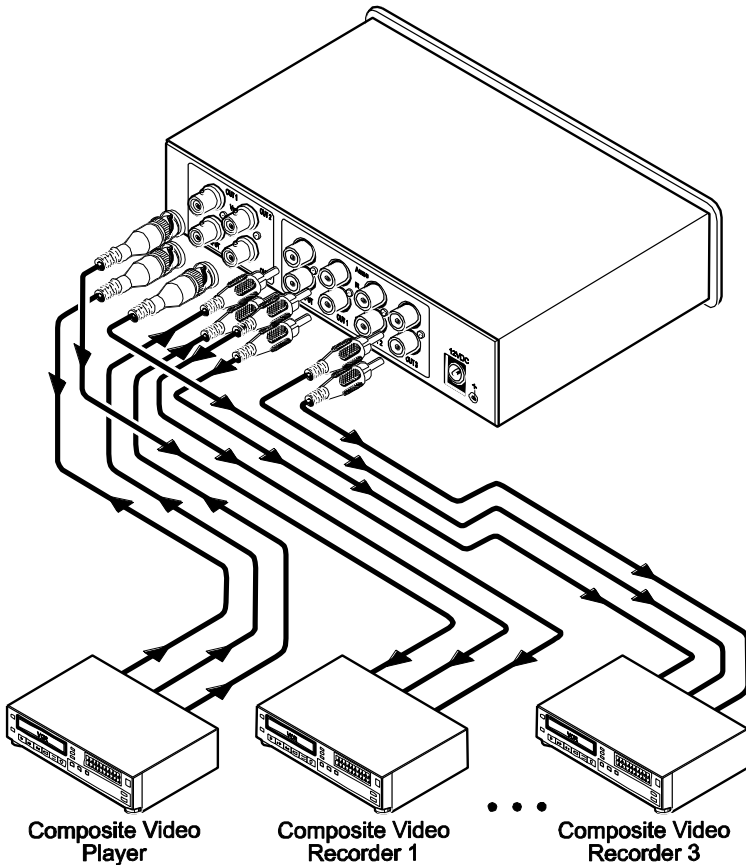

Figure 3: VM-30AV 1:3 Audio/Video DA Connection
To connect³ the **VM-30AV/B 1:3 Audio/Video DA**, as the example in Figure 3 illustrates, do the following:
3. Connect the 12V DC power adapter to the power socket and connect the adapter to the mains electricity (not shown in Figure 3).